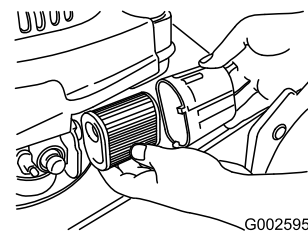

Figure 30
2. Rotate the air filter cover to remove it (Figure 30).